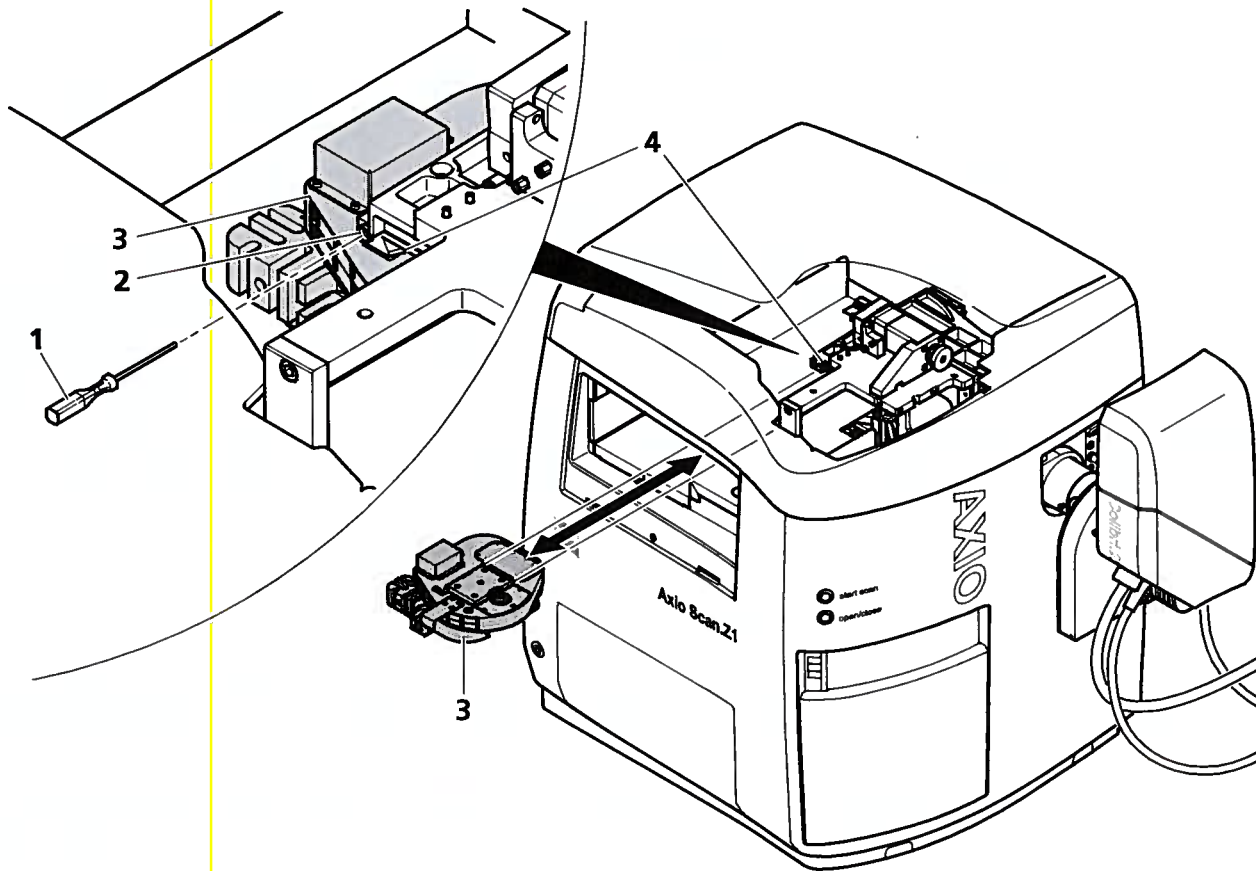

Fig. 6-15 Dismantling the combined unit with beam splitter and emission filter wheel
- Release the clamp screw (Fig. 6-15/2) using an Allen key 3 mm (Fig. 6-15/1) and carefully pull the combined unit (Fig. 6-15/3) out of the dovetail guides (Fig. 6-15/4) towards the front. Use one hand to support the unit from below.
- Carefully insert the combined unit (Fig. 6-15/2) into the dovetail guides (Fig. 6-15/1) and push in until it engages.
- Tighten the clamp screw (Fig. 6-15/2) with an Allen key 3 mm.